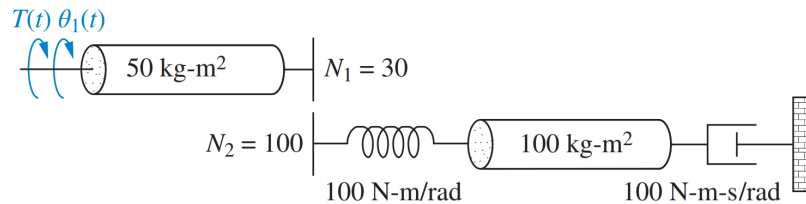

Figure 2: Rotational mechanical system
2. Represent the rotational mechanical system shown in Figure 2 in state space where the input and output are T and θ_1 , respectively. (Hint: Find the equivalent system by eliminating the gear using $\frac{T_2}{T_1} = \frac{N_2}{N_1}$.)